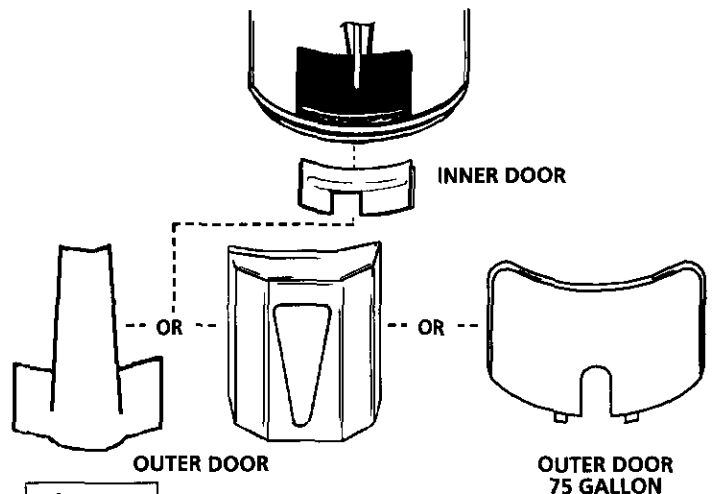

Figure 9
10. Replace (or close) inner door. (Figure 9, page 22)